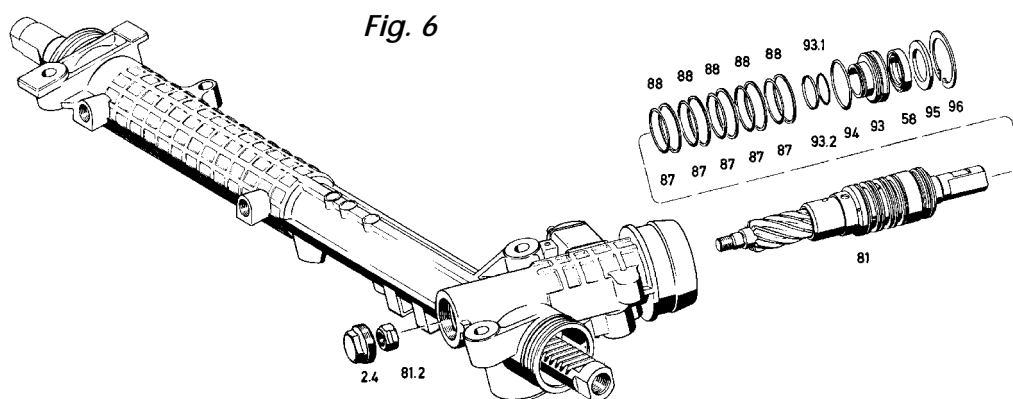

Fig. 6
Remove the plug (2.4) (*Fig. 6*).
Remove the O-rings (93.1 and 94) (see Fig. 6).
Pull the O-rings (87) and the sealing rings (88) off the rotary valve (81) (Fig 6).